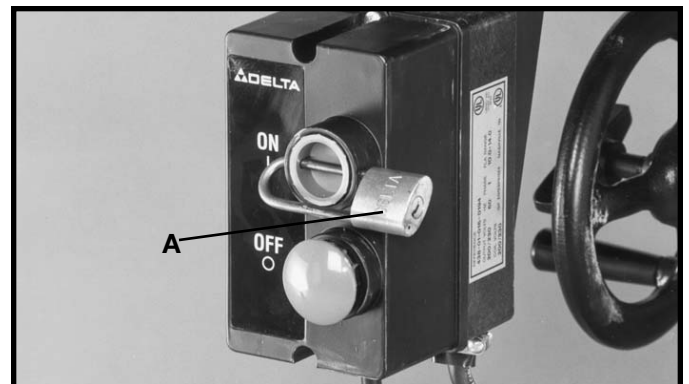

Fig. 107
IMPORTANT: When the tool is not in use, the switch should be locked in the OFF position using a padlock (A) Fig. 107, with a 3/16" diameter shackle to prevent unauthorized use.